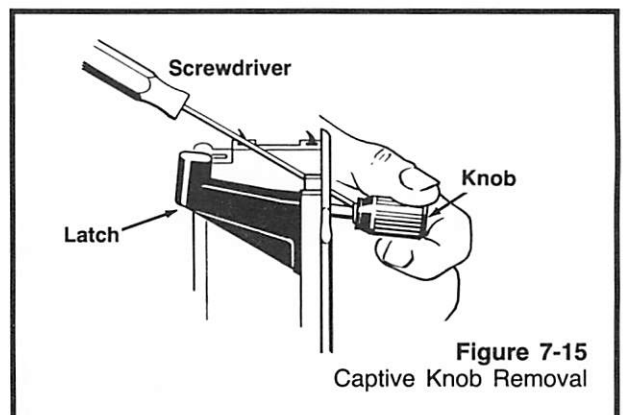

Figure 7-15
(Figure 7-15)
1. Position the retainer and latch assembly as shown in Figure 7-15.